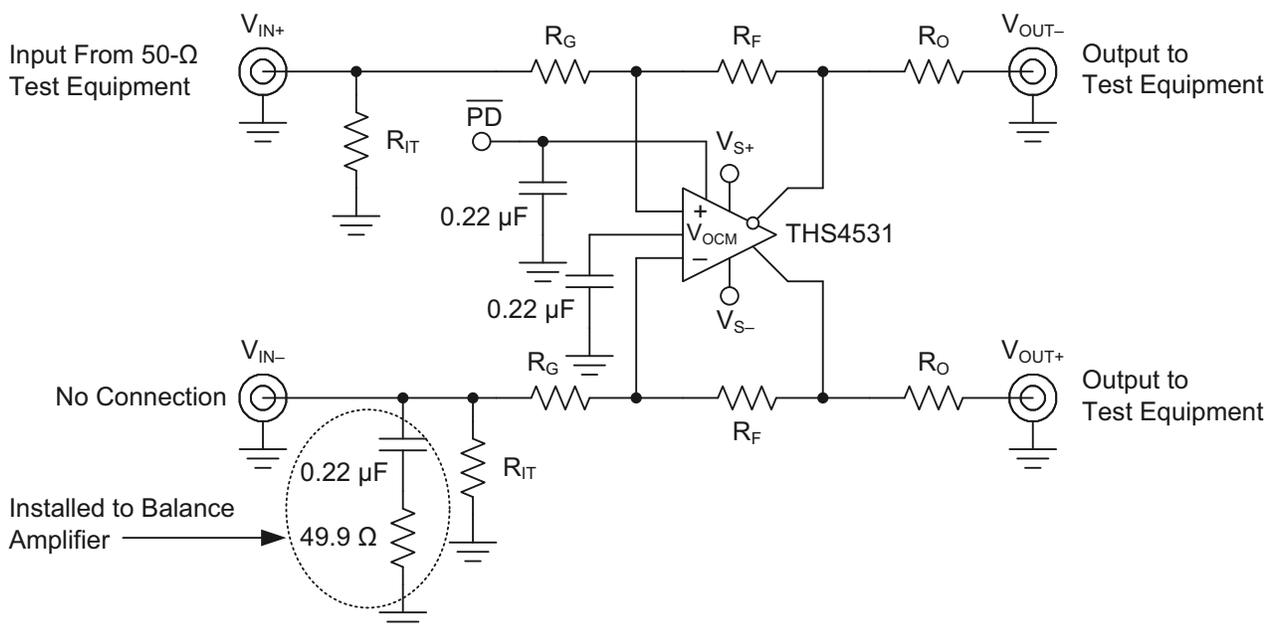
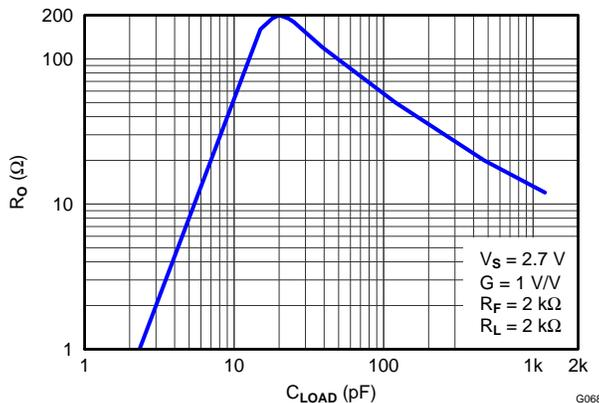
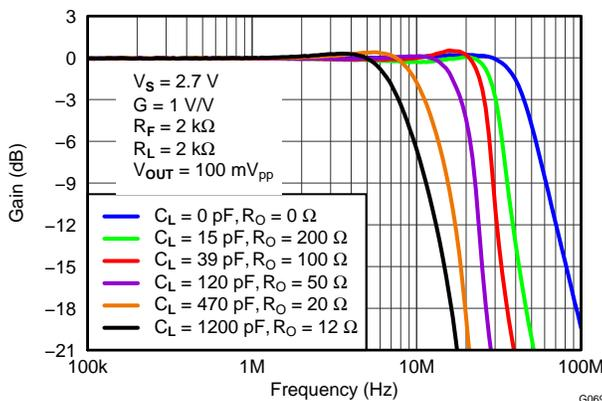

Figure 69. Slew Rate, Transient Response, Settling Time,  $Z_O$ , Overdrive Recovery,  $V_{OUT}$  Swing, and Turn-on/off Test Circuit
Figure 78. Recommended Series Output Resistor vs Capacitive Load for Flat Frequency Response
Figure 79. Frequency Response for Various  $R_O$  and  $C_L$  Values
The circuit shown in Figure 69 is used to measure slew rate, transient response, settling time, overdrive recovery, and output voltage swing. Turn on and turn off times are measured with 50 $\Omega$  input termination on the  $\overline{PD}$  input, by replacing the 0.22 $\mu$ F capacitor with 49.9 $\Omega$  resistor.
Inserting  $R_O$  will compensate the phase shift and restore the phase margin, but it will also limit bandwidth. The circuit shown in Figure 69 is used to test for best  $R_O$  versus capacitive loads,  $C_L$ , with a capacitance placed differential across the  $V_{OUT+}$  and  $V_{OUT-}$  along with 2k $\Omega$  load resistor, and the output is measure with a differential probe. Figure 78 shows the optimum values of  $R_O$  versus capacitive loads,  $C_L$ , and Figure 79 shows the frequency response with various values. Performance is the same on both 2.7V and 5V supply.
4. A series output resistor is recommended to be placed as near to the output pin as possible. See Figure 78 "Recommended Series Output Resistor vs. Capacitive Load" for recommended values given expected capacitive load of design.